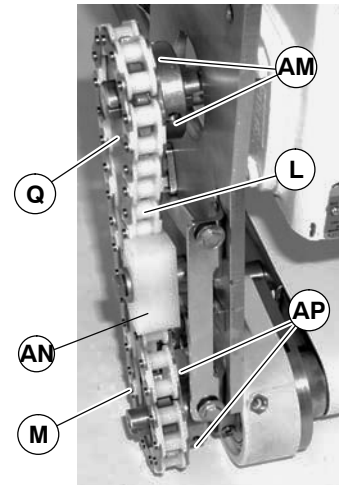

Figure 29
- Loosen timing chain tensioner (AN of Figure 29).